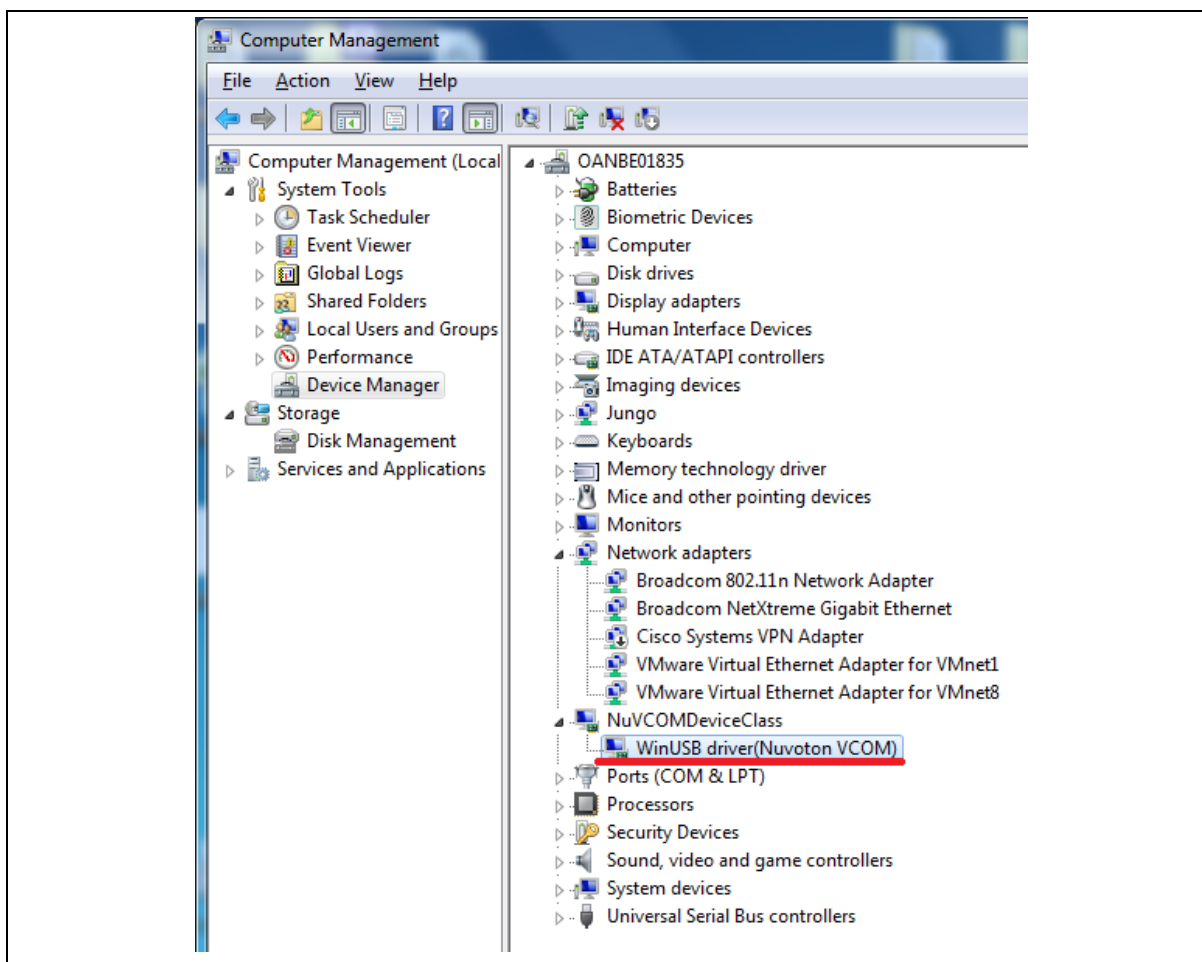

Figure 4-11 Device Manger(2)
4. Find the "WinUSB driver (Nuvoton VCOM)" on the Device Manager as Figure 4-11.